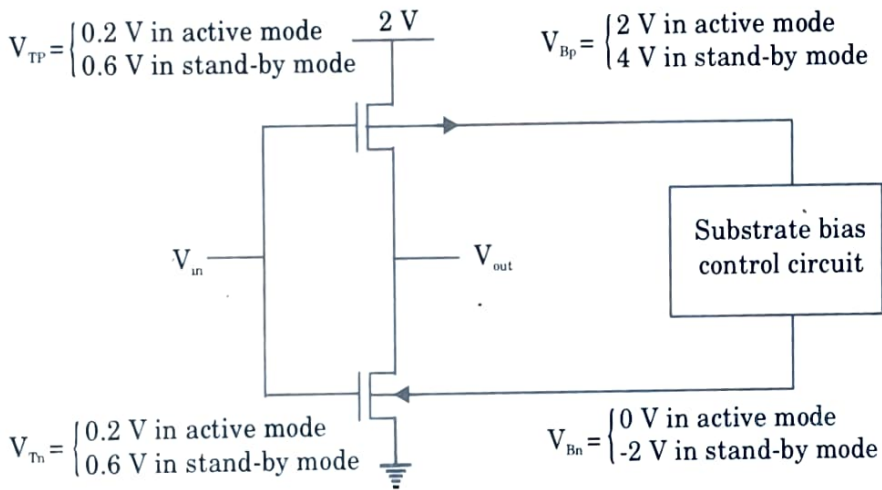

Fig. 4.15.1.
1. In VTCMOS (Variable-Threshold CMOS) circuit, the transistors are designed inherently with low V_T and substrate bias voltages of nMOS and pMOS are generated by a variable substrate bias control circuit as shown in Fig. 4.15.1.